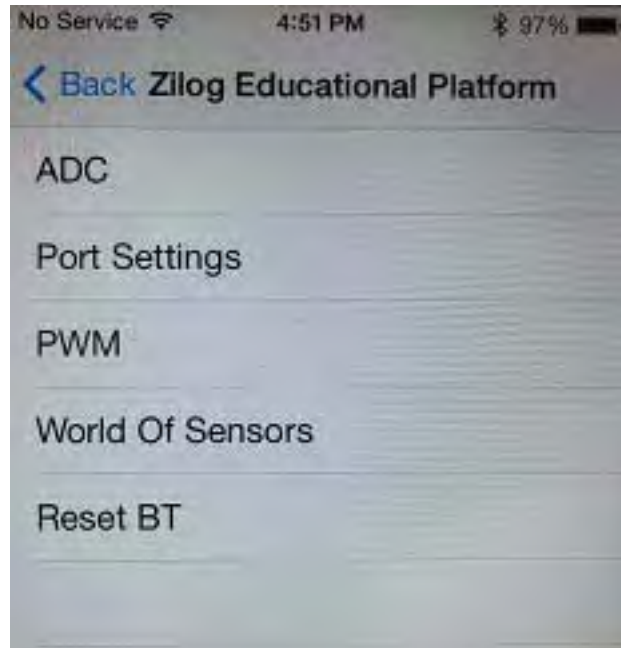

Figure 23. Zilog Educational Platform ZEDUcation App Command Options Screen
5. If no devices are displayed, tap the **Scan** command at the bottom of the screen. After the Radio ID is displayed, tap the ID and wait for a few seconds. The screen shown in Figure 23 is displayed.